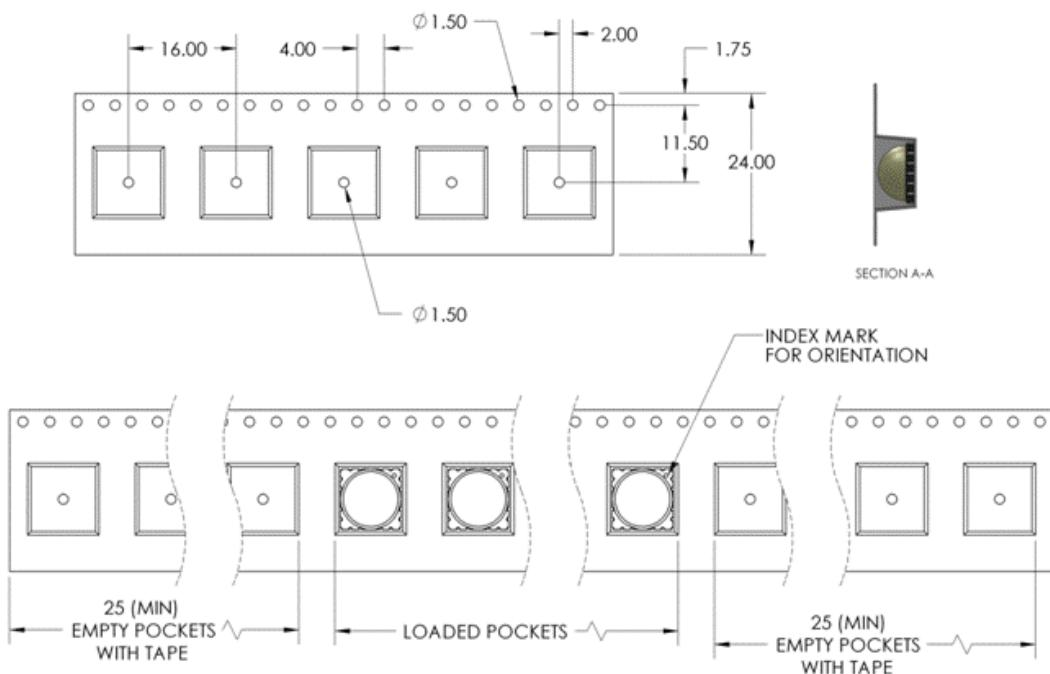

Figure 10: Emitter carrier tape specifications (mm).
1. Maximum DC forward current (per die) is determined by the overall thermal resistance and ambient temperature. Follow the curves in Figure 10 for current derating.